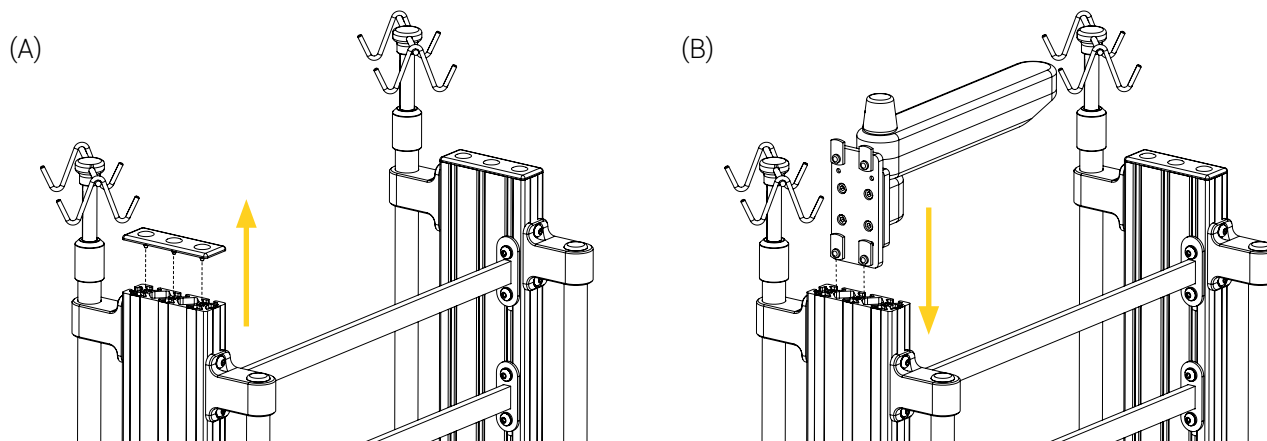

Figure 25: Installation of the Draeger mounting system
5. On the rail of your choice, pull the rail cap upwards to remove it (Figure 25 A). The rail chosen for the installation of the mounting system depends on the specific positioning needs of the equipment.
6. Align to insert and glide the sliding T nuts of the support plate installed on the Draeger mounting system toward the bottom of the vertical rail (Figure 25 B).